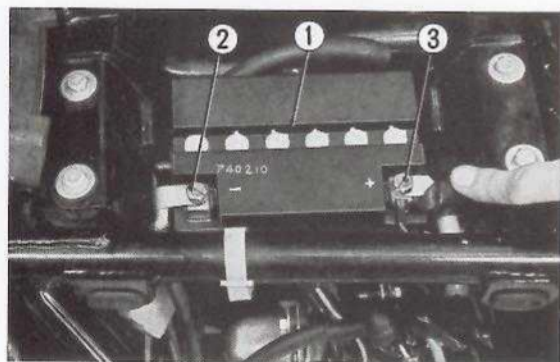

Fig. 10-1 ① Battery ② $\ominus$ terminal ③ $\oplus$ terminal
2. Disconnect the ground $\ominus$ negative cable connection first and the positive $\oplus$ last. (Fig. 10-1)